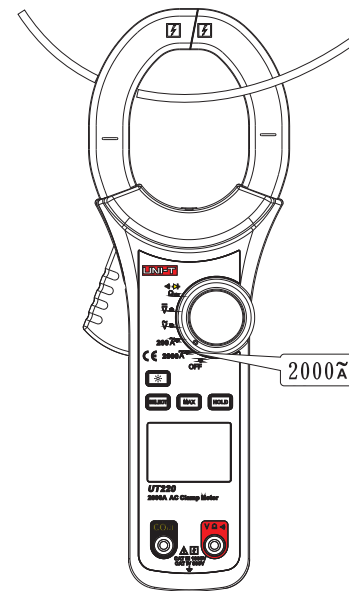

Figure 8
6. 2000A AC current measurement (2000 \tilde{A}) (See Figure 8)